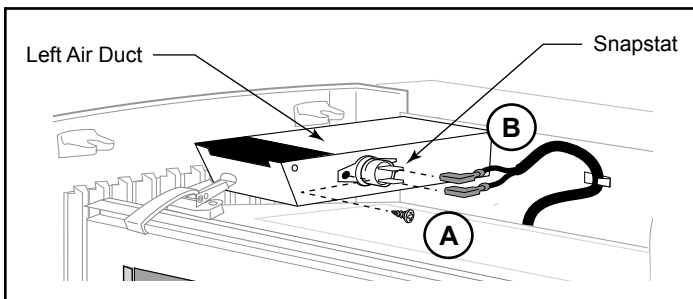

Figure 33 - Install snapstat to left air duct.
6. Install snapstat. Looking through the stove front, locate the snapstat mounting screws on the side of the left air duct under the top plate. Remove the front screw ('A', Figure 33), but only loosen the rear screw. Slip the snapstat under the rear screw, replace the front screw, and tighten both.
- Detach the extension wire from the retainer clip at the rear. Connect the female flag connectors ('B', Figure 33) of the snapstat extension to the snapstat module. Confirm that the wires are running to the back and away from the top of the stove.